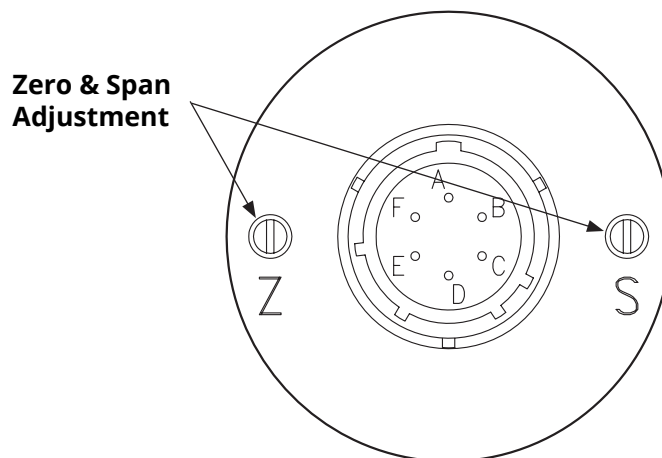

Figure 3.1
**i** IMPORTANT: Do not make changes to the Span adjustment (the "S" pot to the right, see Figure 3.1) as part of the zero trimming. The Span should only be changed as part of the recalibration of a gauge with a known pressure source.
- Apply full scale pressure to the pressure port and adjust the Span ("S") pot (on the right of Figure 3.1) until the full scale signal is reached.